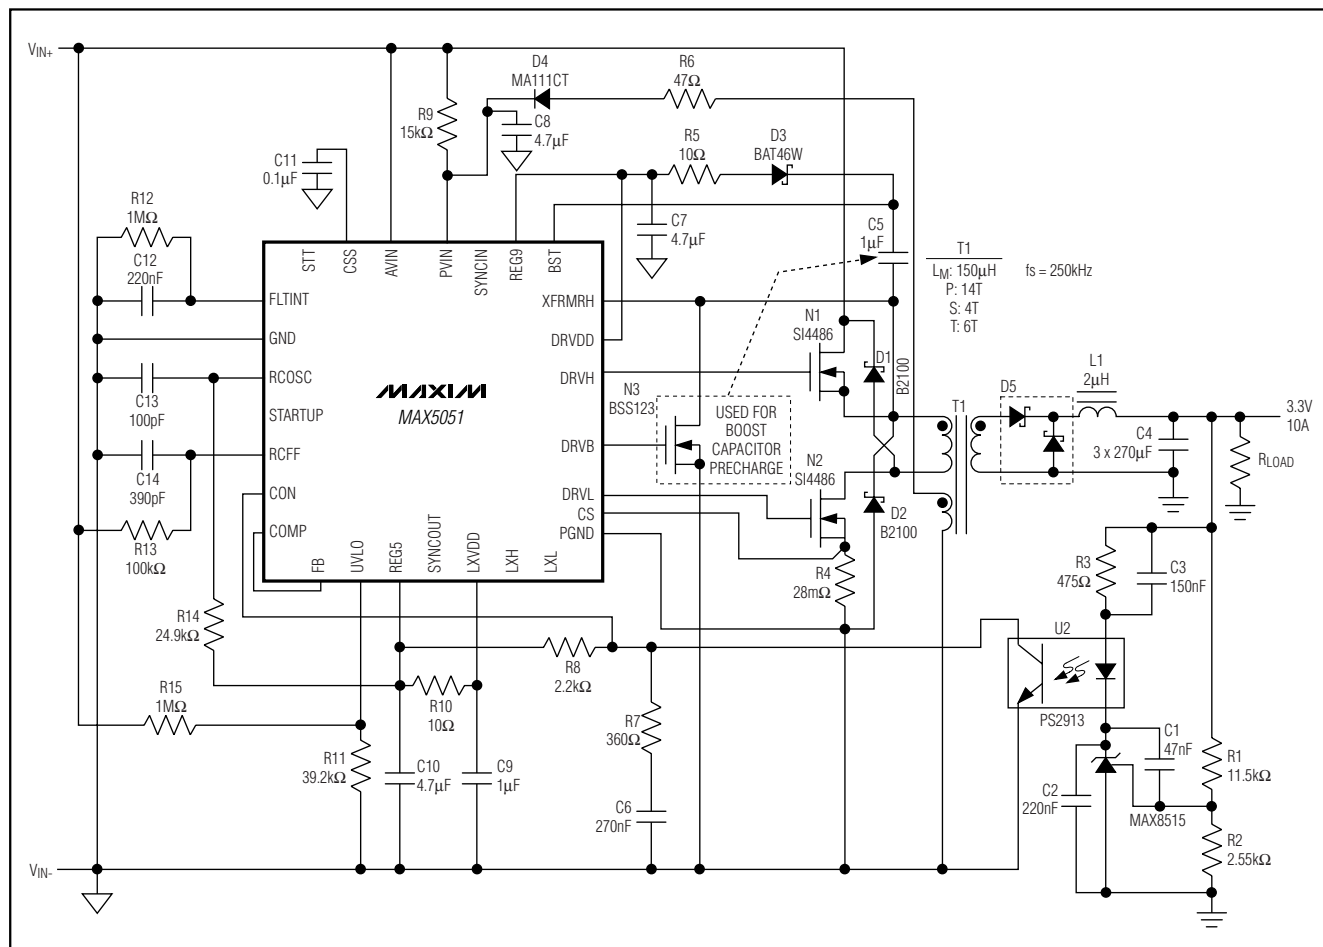

Figure 2. Typical Application Circuit
The two-switch power topology has the added benefit of recovering practically all magnetizing as well as the leakage energy stored in the parasitics of the isolation transformer. The lower clamped voltages on the primary power FETs allow for the use of low  $R_{DS(ON)}$  devices. Figure 2 shows the schematic diagram of a 48V input 3.3V/10A output power supply built around the MAX5051.
If the charge stored on the boost capacitor is not adequately replenished then the gate-driver lockout for the high-side MOSFET is triggered, stopping the high side from switching. The low side continues switching, eventually recharging the capacitor, at which point the high side starts switching again. To prevent this behavior, use the boost capacitor's cycle-by-cycle charging circuit to prevent unwanted shutdowns of the high side (Figure 2). Connect the gate of a small high-voltage FET (with the same voltage rating or higher as the main FETs) to the DRVH output of the MAX5051. Connect the drain of this FET to XFRMRH, and connect the source to the primary ground. DRVH will briefly (300ns) turn this FET ON every cycle after the main PWM clock terminates. This allows the boost capacitor to be replenished under all conditions, even when switching stops completely. A suitable FET for this is BSS123 or equivalent (100V, 170mA rated). The boost-capacitor charge
The error amplifier in the MAX5051 has an uncommitted inverting input (FB) and output (COMP). Use this amplifier when secondary isolation is not required. COMP can then be directly connected to CON (the input of the PWM comparator). The noninverting input of the error amplifier is connected to the soft-start generator and is also available externally at CSS. A capacitor connected to CSS is slewed linearly during initial startup with the 70μA internal current source (see Figure 2). This provides a linearly increasing reference to the noninverting input of the error amplifier forcing the output voltage also to slew proportionally. This method of soft-start is superior to other methods because the loop is always
After coming out of standby and before initiating the soft-start, the MAX5051 turns on the low-side FET to charge up the boost capacitor. A voltage detector has been incorporated in the high-side driver that prevents the high-side switch from turning on with insufficient voltage. It is also used to indicate when the boost capacitor has been charged. Once the capacitor is charged, soft-start commences. If the duty cycle is low, the magnetizing energy in the transformer may be insufficient to keep the bootstrap capacitor charged. DRVb (see Figure 2 dotted lines) has been provided to drive a small external FET connected between XFRMRH and PGND, and is pulsed every cycle to keep the capacitor charged.